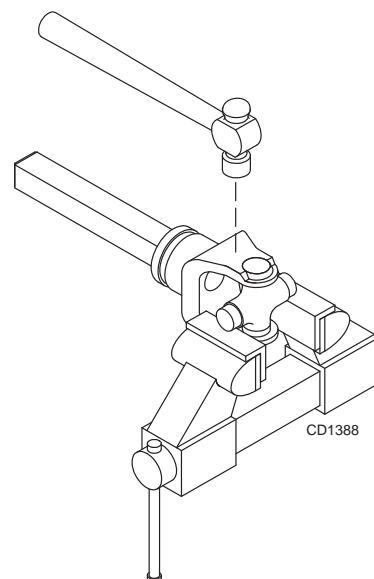

Figure 30
- Place universal cross in vise as shown in Figure 30 and tap on yoke to remove cup. Repeat Step 3 for